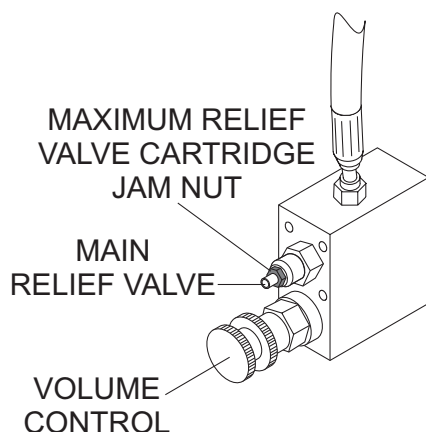

Figure 51. Hydraulic Drive Pump Manifold
4. Start the engine and loosen the jam nut located on the **maximum relief valve cartridge** (Figure 51).
5. Run the engine at maximum RPM (2,550) and turn the volume control knob **counter-clockwise** to maximum volume position (Figure 51).